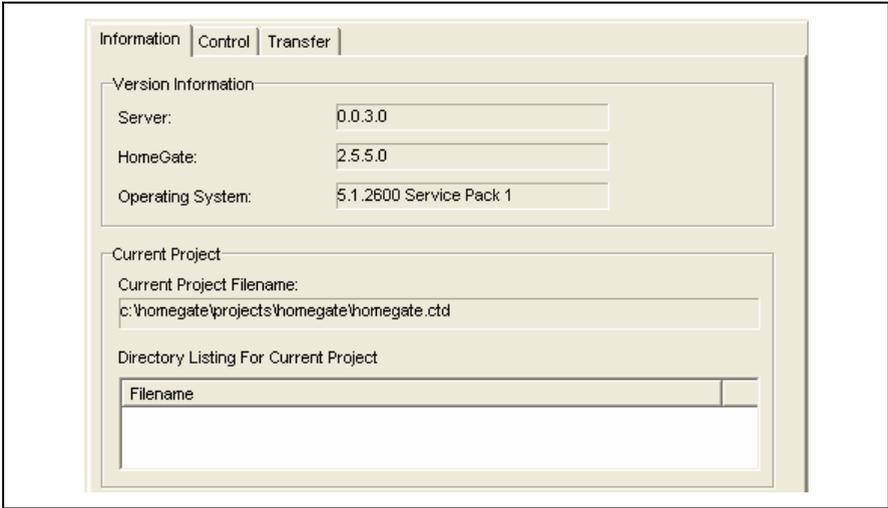

Figure 21 – The Information page in the Transfer Utility software
- 13) The Transfer Utility software will display the Information page for the connected C-Touch Colour unit (Figure 21). Two other pages, Control and Transfer, can be selected by clicking the appropriate tab.